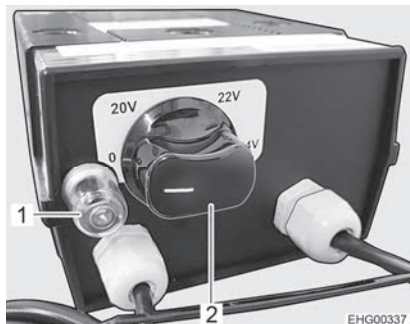

Fig. 129 Regulator for electrical floor warming unit
- Turn the control knob (Fig. 129,2) to the required heating level.
- Turn control knob (Fig. 129,2) to "0" position.
If the regulator is overloaded, the overload protection is actuated. The pin (Fig. 129,1) jumps out.
- Press the pin (Fig. 129,1) on the overload protection when the regulator is cooled.